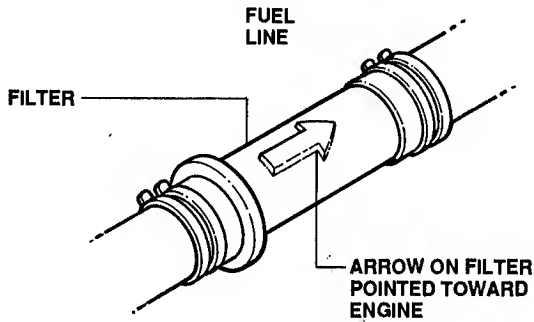

FIGURE 7.2
Shown in Figures 7.2 & 7.3 are the two types of fuel filters found on most units.
1. Check the In-Line Fuel Filter at frequent intervals and replace before the screen become clogged with sediment. Make sure the replacement is correctly installed with the arrow on filter pointing toward the engine. Check the Fuel System Components frequently and replace any parts showing worn spots or cracks. See Figure 7.2.